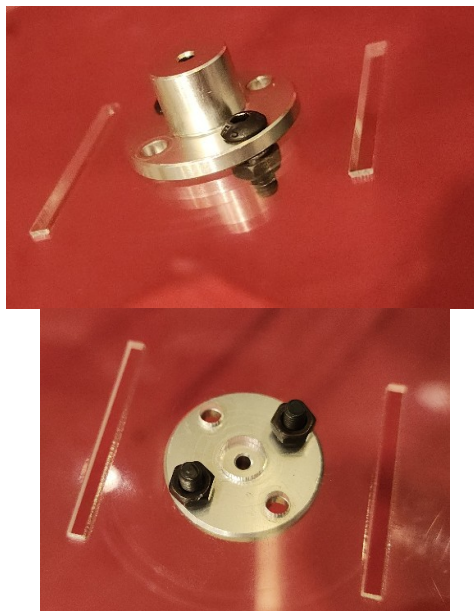

Figure 5
- 2) The coupler can attach to the disk using the M3 bolts and nuts given as shown in Figure 5.